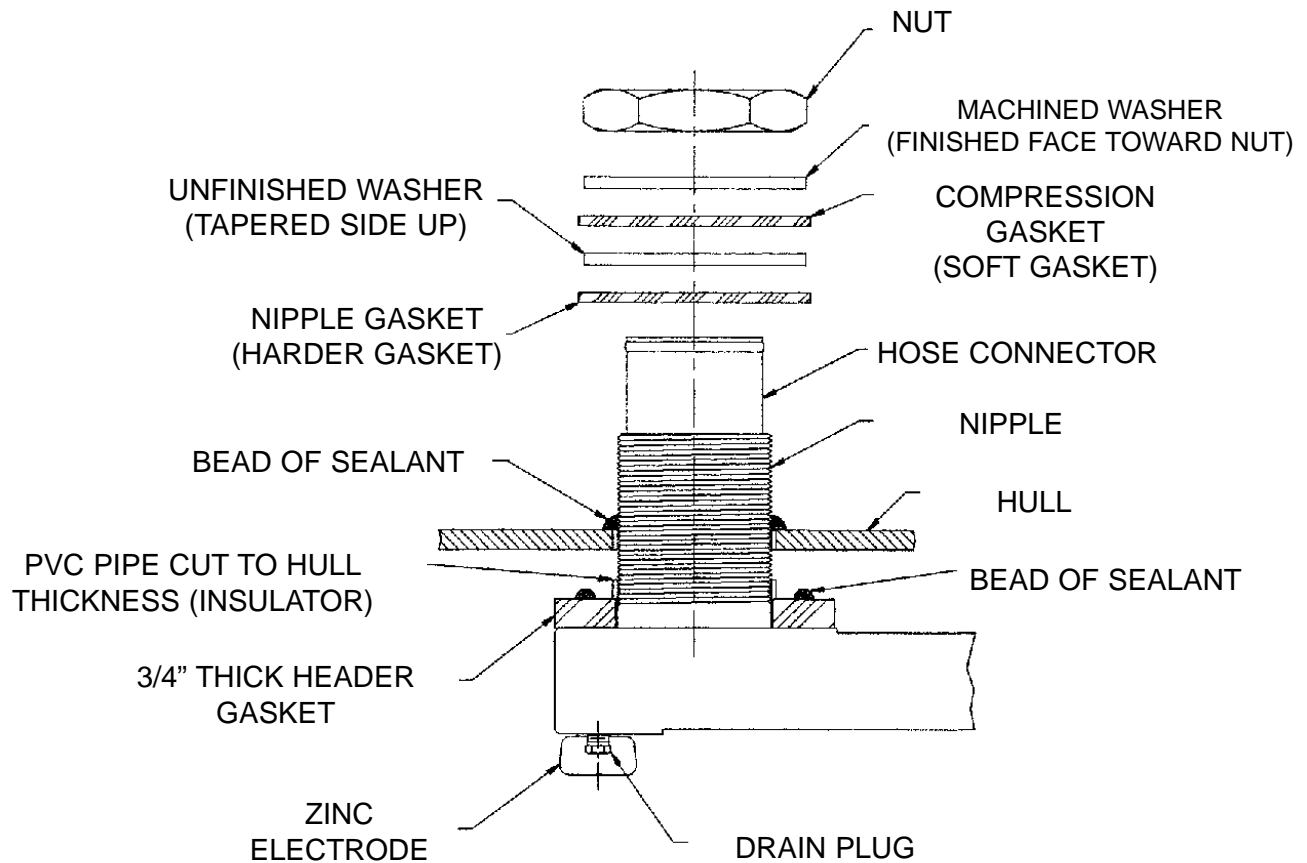

FIG. 18 Compression sealing parts placement
3.1 COFFERDAM INSTALLATION WITH COMPRESSION GASKETS(see Figure 18)